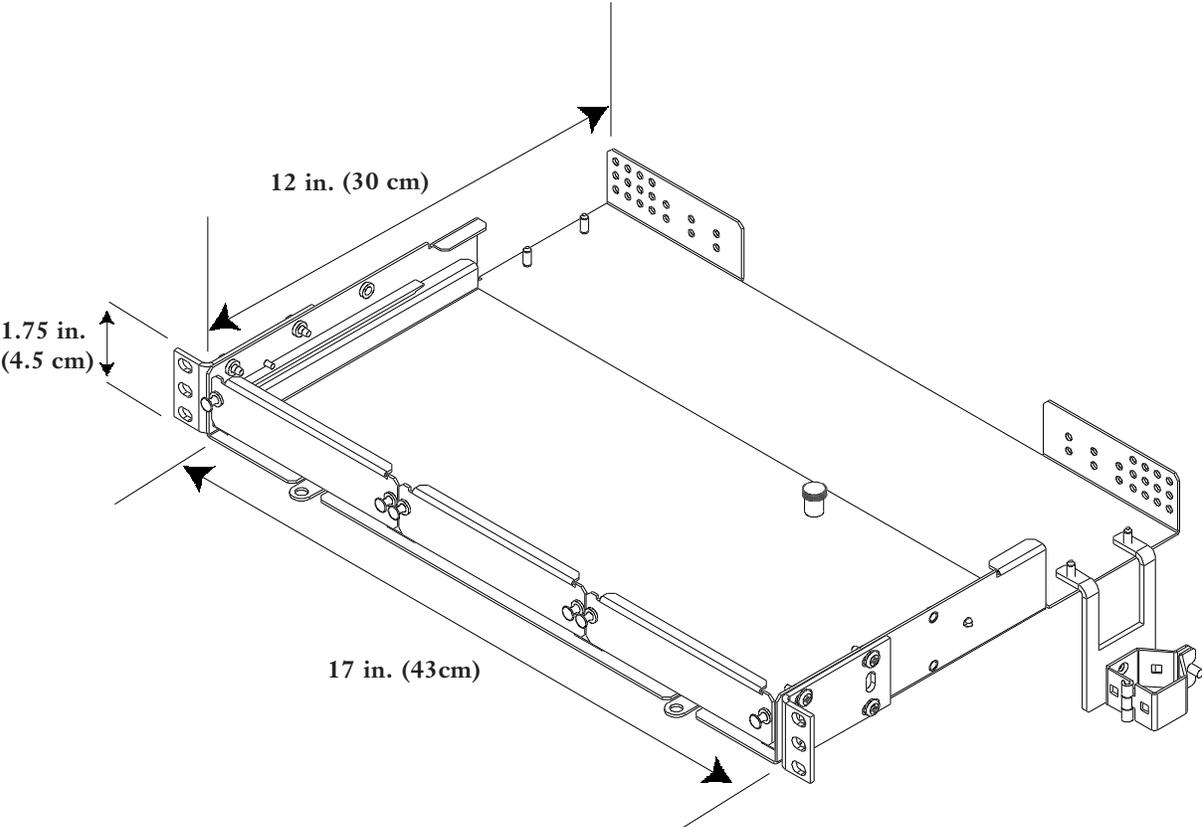
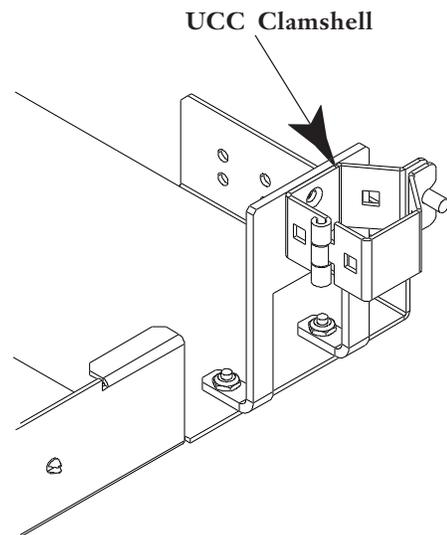

Figure 2
Figure 5
3.2 The main components of the HDH-01U unit are illustrated in Figure 2.
5.2 To use the Universal Cable Clamp (UCC) for cable strain-relief, attach the UCC clamshell to the strain-relief bracket as shown in Figure 5. Follow installation instructions included with the UCC kit for specific cable installation instructions. Attach the bracket to the housing (Figure 5).
NOTE: Figure 5 illustrates the orientation of the strain-relief bracket for top entry of the cable into the housing. When your application requires bottom entry of the cable, install the strain-relief bracket as shown in Figure 2.